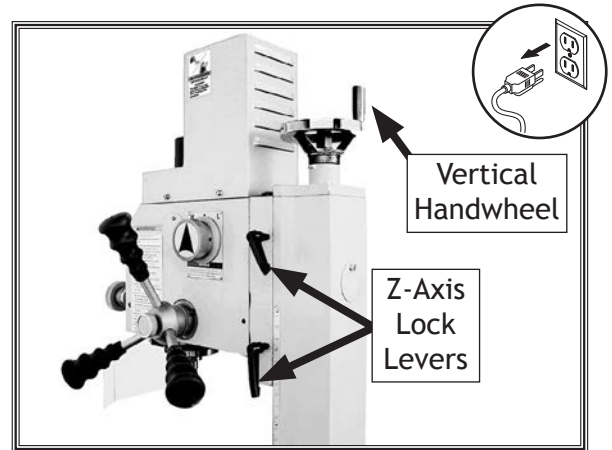

Figure 19. Location of Z-axis lock levers.
2. Loosen both Z-axis lock levers shown in **Figure 19**.
3. Use vertical handwheel shown in **Figure 19** to adjust headstock height.